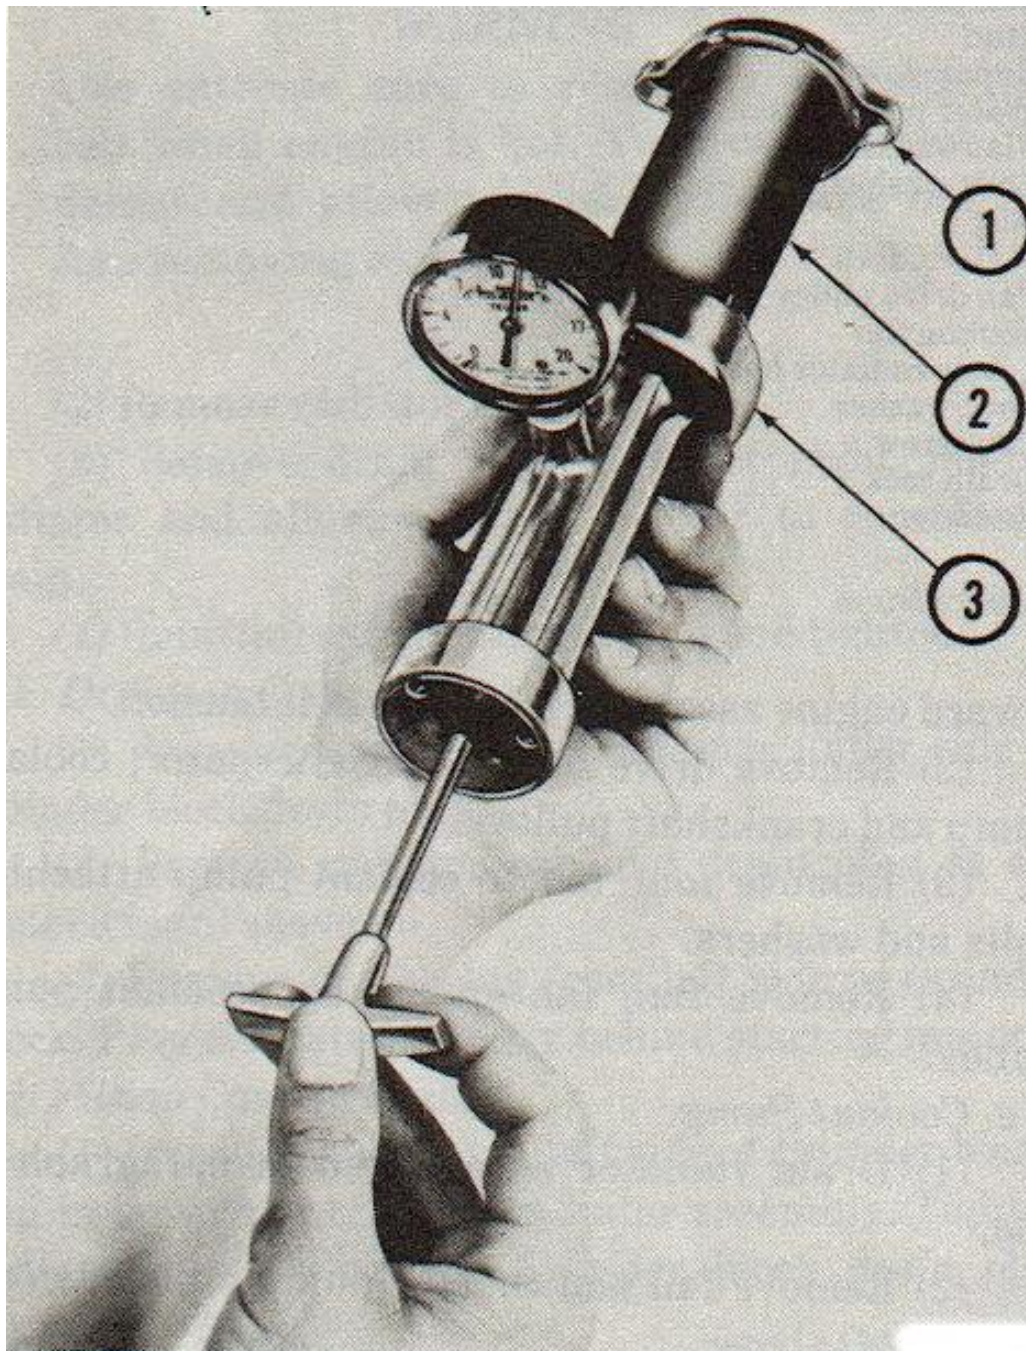

FIGURE 2-26. Testing Radiator Pressure Cap.
- h. Test radiator pressure cap (fig 2-26) and radiator neck seal.